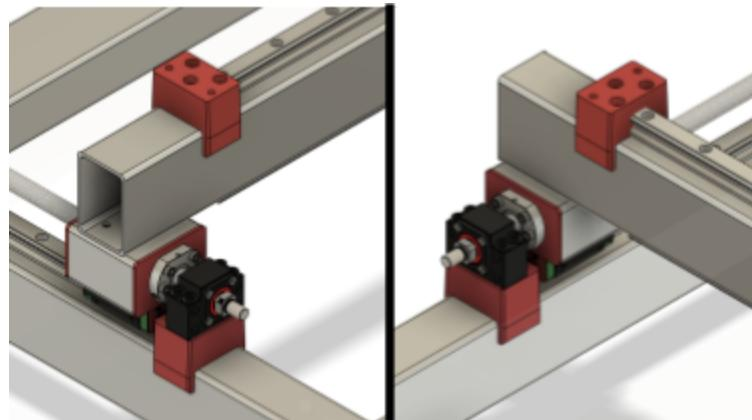

Figure 10.2
3. Ensure the BF12 mount is oriented correctly, as shown in Figure 10.2. The three counterbored holes make a triangle pattern pointing away from the HGR20 rail.